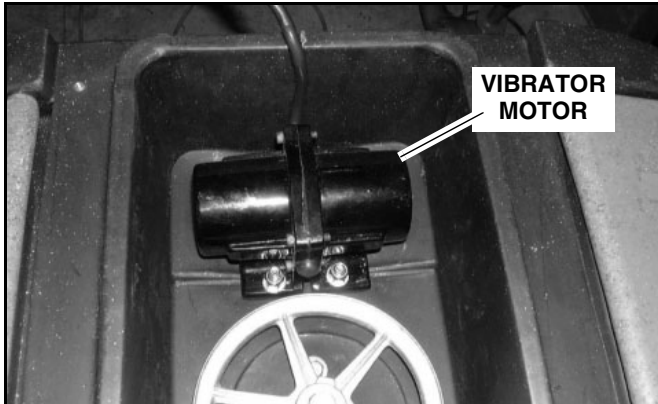

Figure 9
9. Tighten nuts to 50 lb. ft. (68 N-m). The plastic housing will compress. The material will stop stretching when the two walls of material in the motor plate housing are compressed together (See Figure 9).